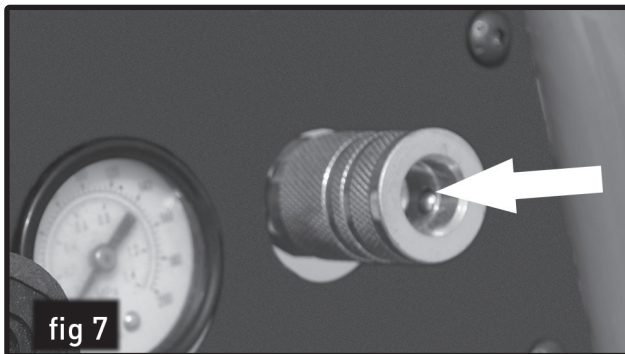

fig 7
Your air compressor is supplied with a 1/4" push-connect air coupler (fig 7). With a factory installed air coupler, your compressor is ready to accept air hoses equipped with 1/4" male air connectors (fig 4).
1. Simply push the "connector" or "plug" into the fitting (fig 7) and it automatically engages.